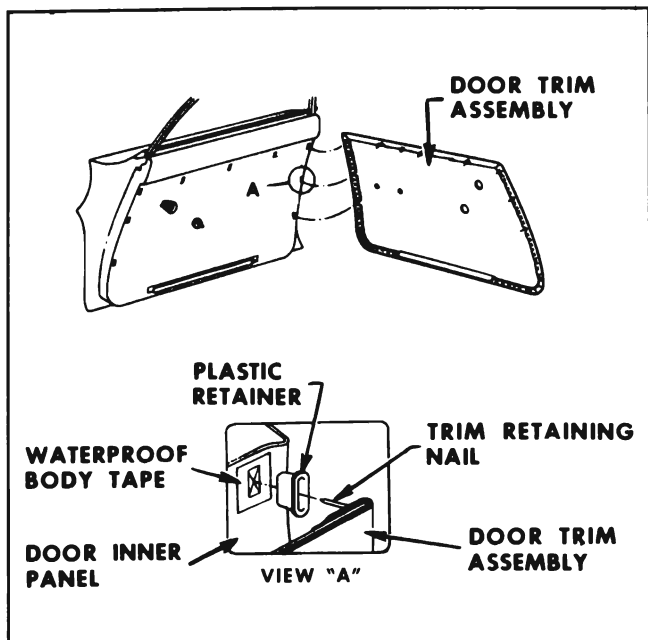

Figure 13-28—Door Trim Installation
4. Starting at top of trim assembly, carefully insert tool No. J-6335 or a suitable flat-bladed tool between door trim assembly and door inner panel at retaining nail locations and disengage nails from retainers. See Figure 13-28.
panel. See Figure 13-28. Make two (2) slits in tape to form an "X" pattern. Check retainer for snug fit. If retainer is still loose, repeat above operation by installing a second piece of tape over existing repair. This procedure may also be used to repair waterleaks which may develop around perimeter of retainer.